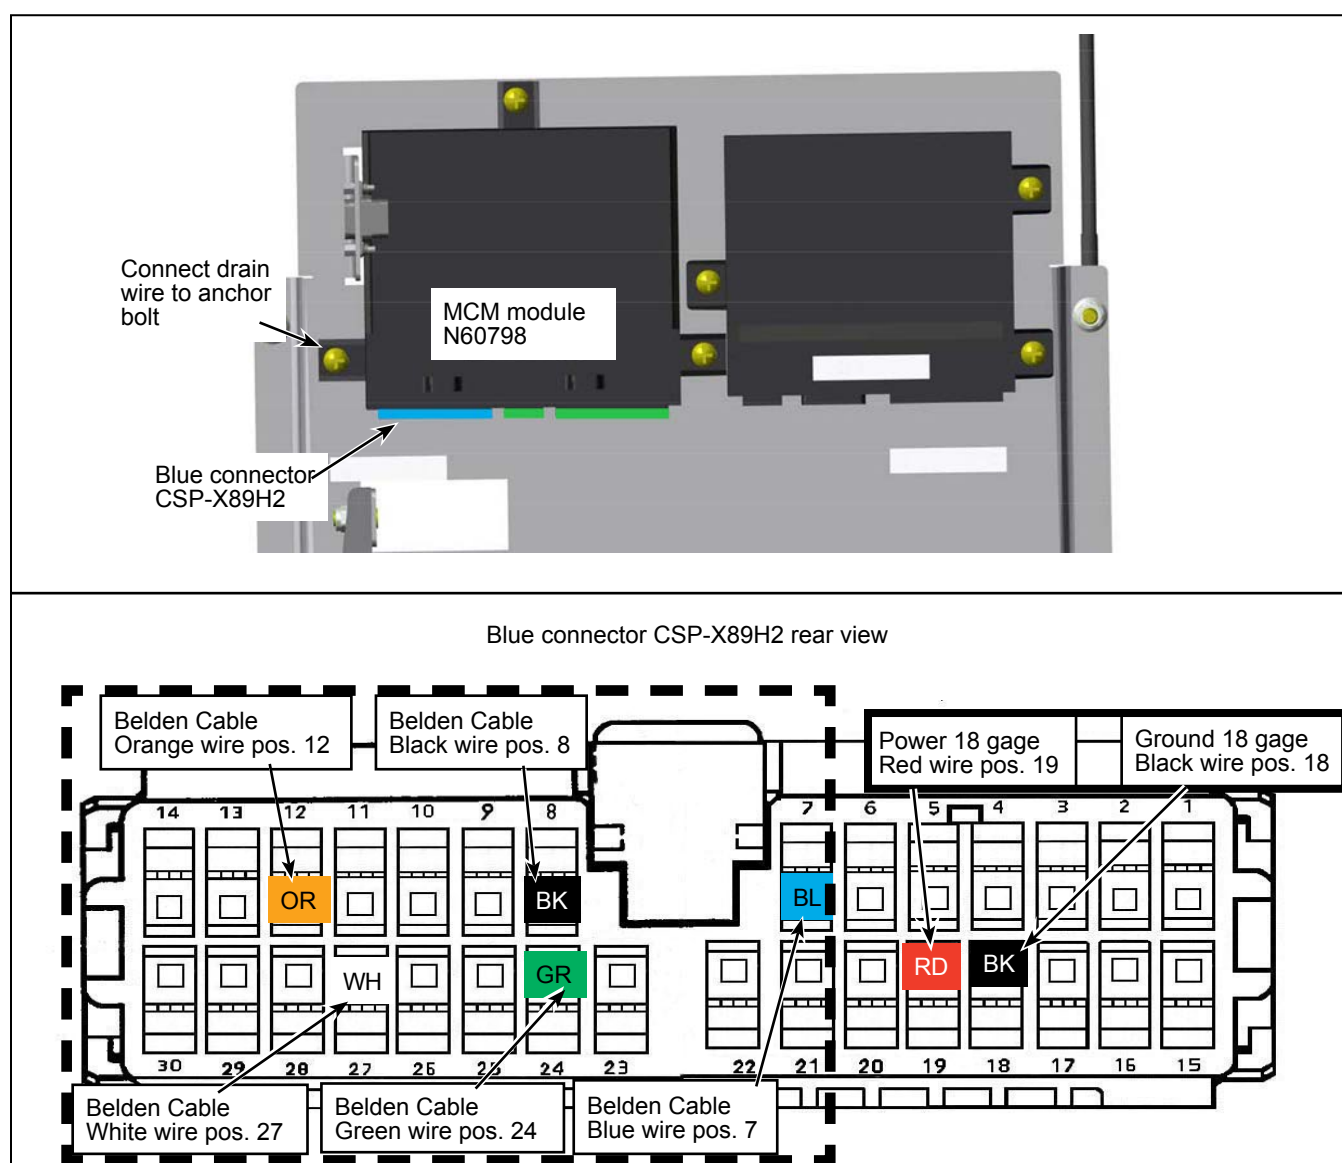

Figure 2 - Connection of Cable N81735 to Blue MCM Module Blue Connector
- 1.6. Route and connect the portion tag **TO MCM** of cable N81735 to **BLUE** MCM connector **CSP-X89H2** in the operator's control panel. Secure the cable with tie wraps along the routing. See Figure 2.
- 1.7. Disconnect the blue MCM connector **CSP-X89H2** from the CECM module. See Figure 2.
- 1.8. Connect all colored wires (green, white, orange, blue, red and 2 black) of cable N81735 to connector **CSP-X89H2**. See Figure 2 for pin position.
- 1.9. Replace CECM module with new MCM module N60798, using the same hardware. See Figure 2.
- 1.10. Connect the drain wire of cable N81735 to the bottom left anchor bolts of MCM module N60798. See Figure 2.